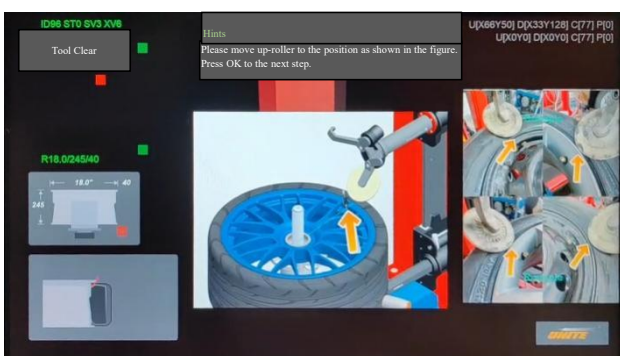

Figure 21
Press the (UP) key to adjust the 3 in 1 lifting tyre changer hook to the upper tyre pressing roller and manually adjust the upper tyre pressing roller to 2mm above the rim edge as per the diagram (as shown in Figure 21).